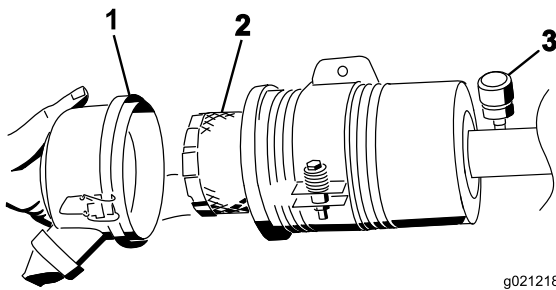

Figure 58
3. Remove and replace the filter (Figure 58).